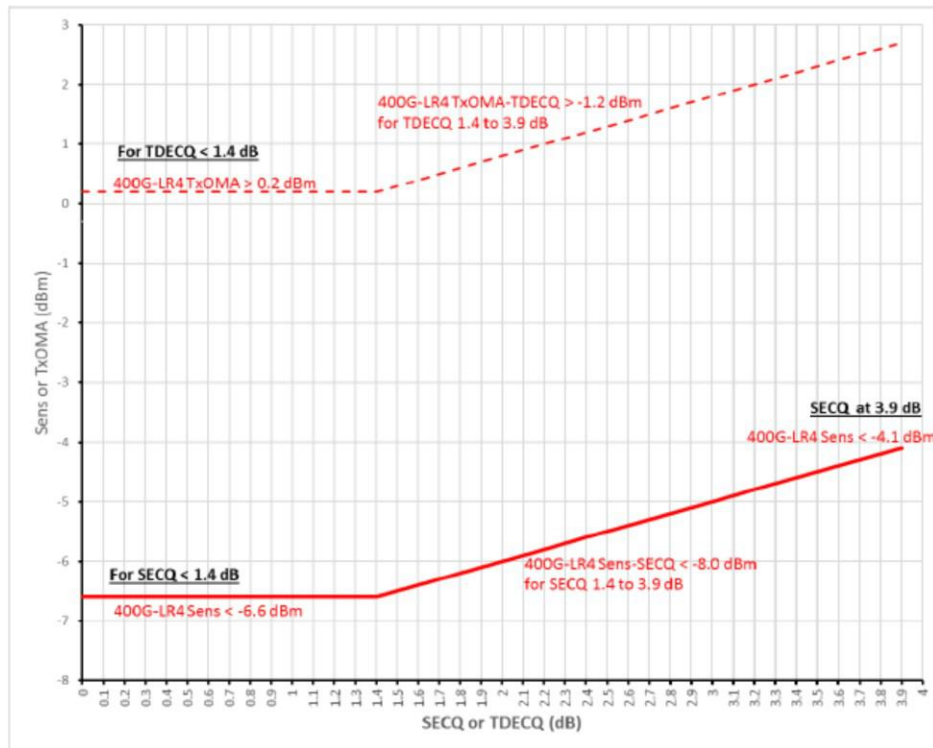

Figure 4. Illustration of Receiver Sensitivity Mask for 400G-LR4
11. Receiver sensitivity (OMA_{outer}), each lane (max) is informative and is defined for a transmitter with a value of SECQ up to 3.9 dB. It should meet Equation (1), which is illustrated in Figure 4.